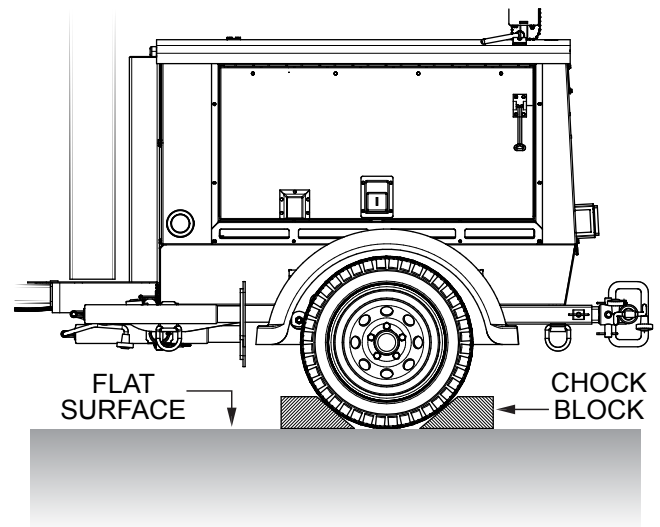

Figure 2. Chock Tires
1. Place the LT6KV Light Tower in an area free of dirt and debris. Make sure it is on secure level ground with chock blocks (Figure 2) underneath each wheel to prevent the light tower from rolling.